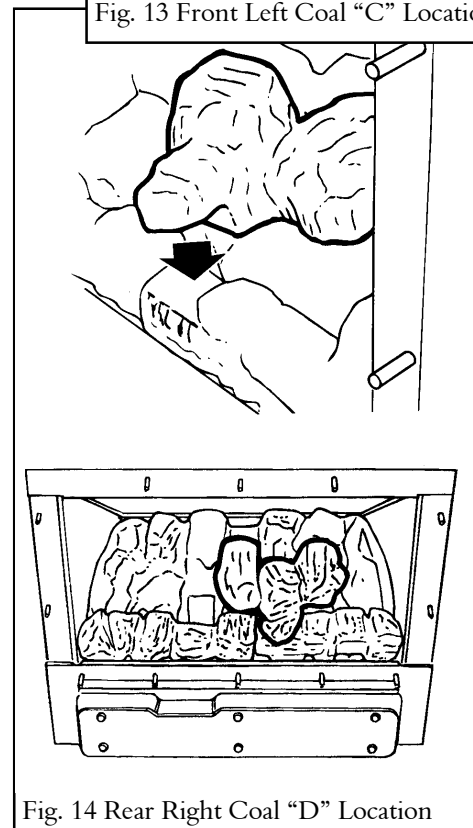

Fig. 14 Rear Right Coal "D" Location
10.5 Place the rear right coal (embossed 'D' underneath) in position as shown in figure 14.